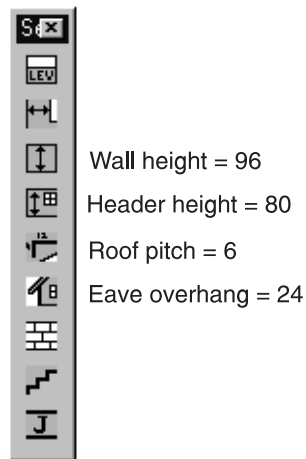

Figure 6-59
1. Pick on the Settings toolbar and check the following buttons: **Wall Height**, **Header Height**, **Roof Pitch**, and **Eave Overhang**. Set as shown in Figure 6-59.